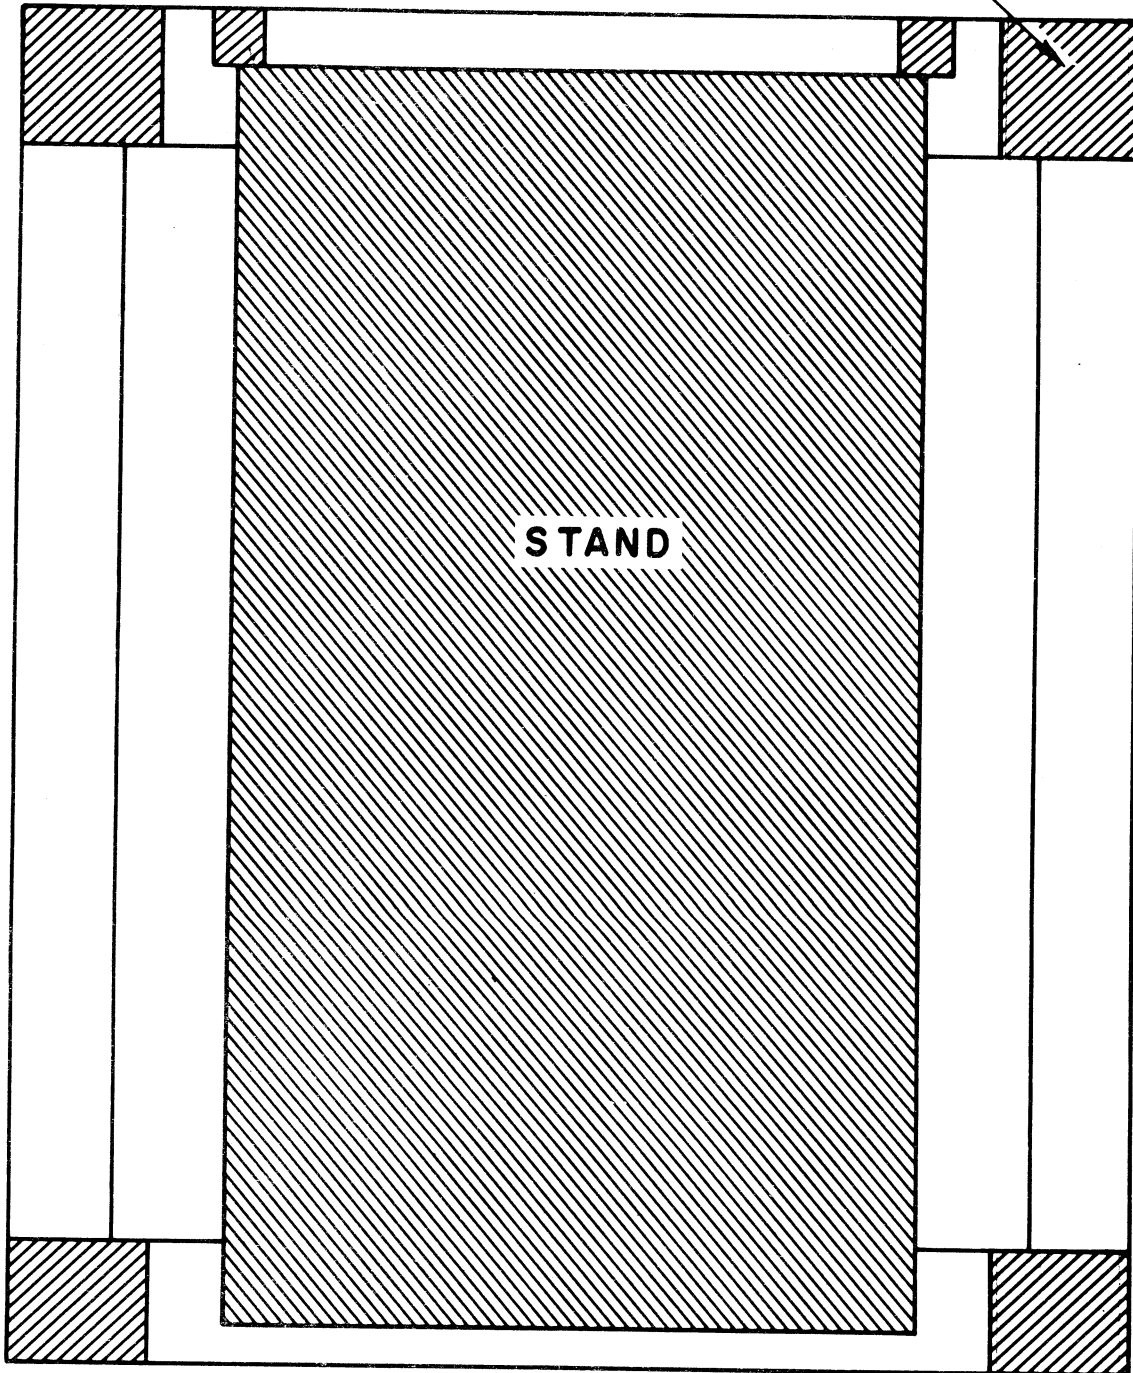

Figure 2-2. Location of Corner Braces in Teletype Carton
- b) Remove corner braces (4) and Teletype Stand. (See Figure 2-2.) Manuals will be packed inside Teletype Stand.